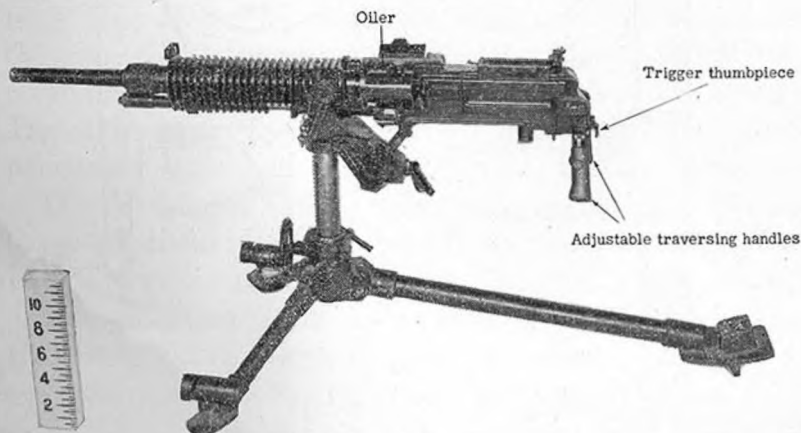

Figure 70.—Model 92 (1932) 7.7-mm heavy machine gun (left side).
- (5) The oiler (fig. 70), which is situated above and to the left of the receiver directly above the feedway.
- (6) The marking $\begin{smallmatrix} 九 \\ 二 \\ 式 \end{smallmatrix}$ which is on top of the receiver.